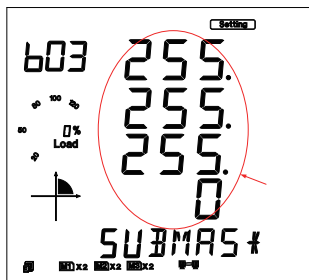

Fig 5-79
e). Set Subnet Mask in the third setting page, such as 255.255.255.0. Press "V/A" key to go to the setting page. Users may set the parameters in the area pointed out in Figure 5-79. The cursor starts at the first digit. After setting the Subnet Mask, press the "V/A" key to accept. Press the "P" key again to go to the fourth setting page for Gateway.